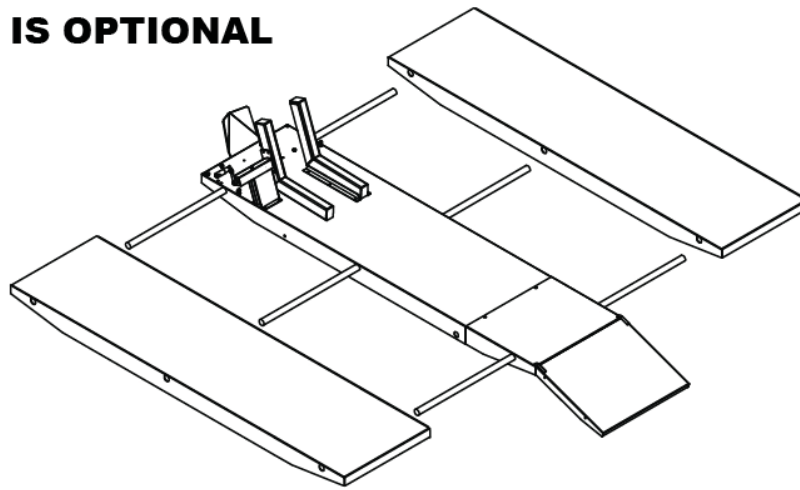
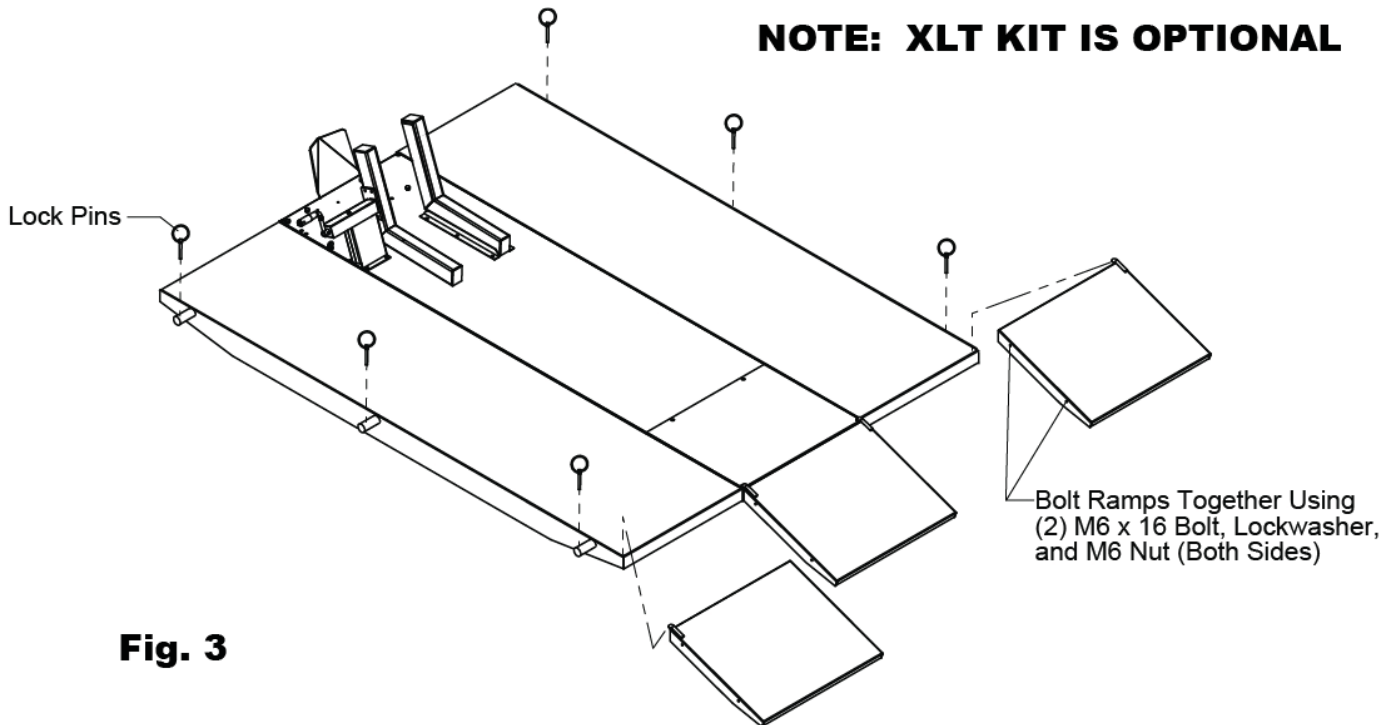

Fig. 2
Fig. 3
- Step 1** Run the tubes through the holes on the side of the table (holes will be at the ends and the middle). Install the side extensions onto the protruding tubes, see Fig. 2. Use locking pins provided to secure the tubes as seen in Fig. 3.
- Step 2** Drop the ramps for the side extensions in place as shown, Fig. 3. Attach the ramp side extensions using M6 x 16 bolts, lock washers, and nuts.